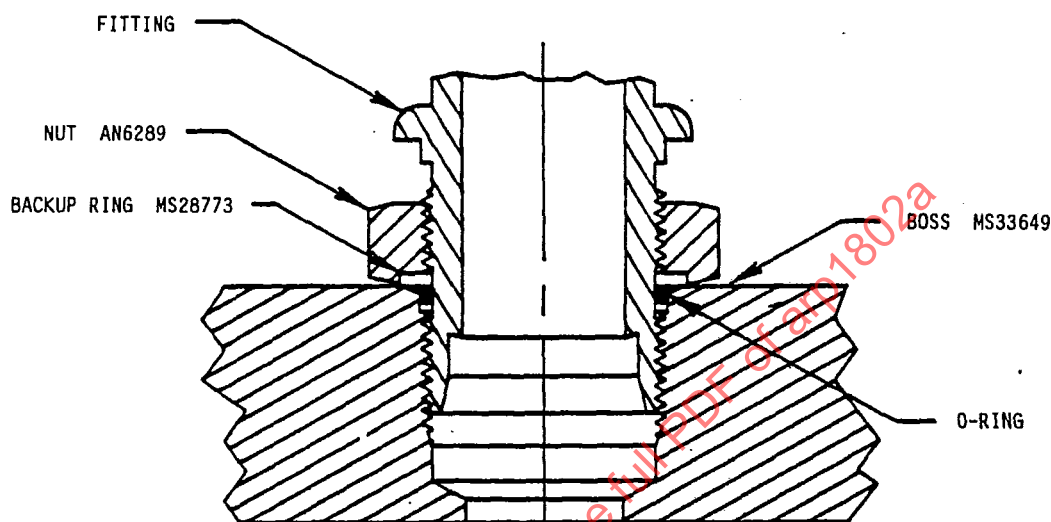

FIGURE 4 - Universal Fitting Installation
- 3.3.2 MS21344 and MS33566 Fitting Installation Standards Pertaining to Universal Fittings: Universal fittings are rarely used in new design. MIL-H-5440 requires special approval for the use of universal fittings. Universal fittings per MS21344 and MS33566 are installed as shown in Figure 4.